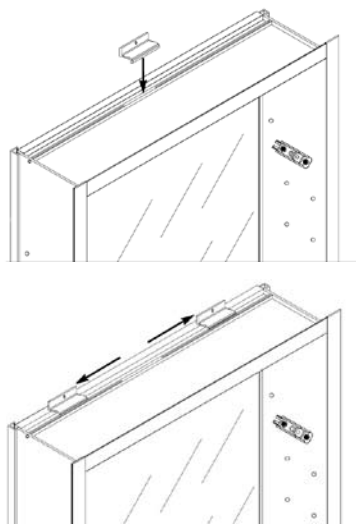

FIG 7
6. Insert surface mount z-clips in top channel of top cabinet as shown (Fig 7).